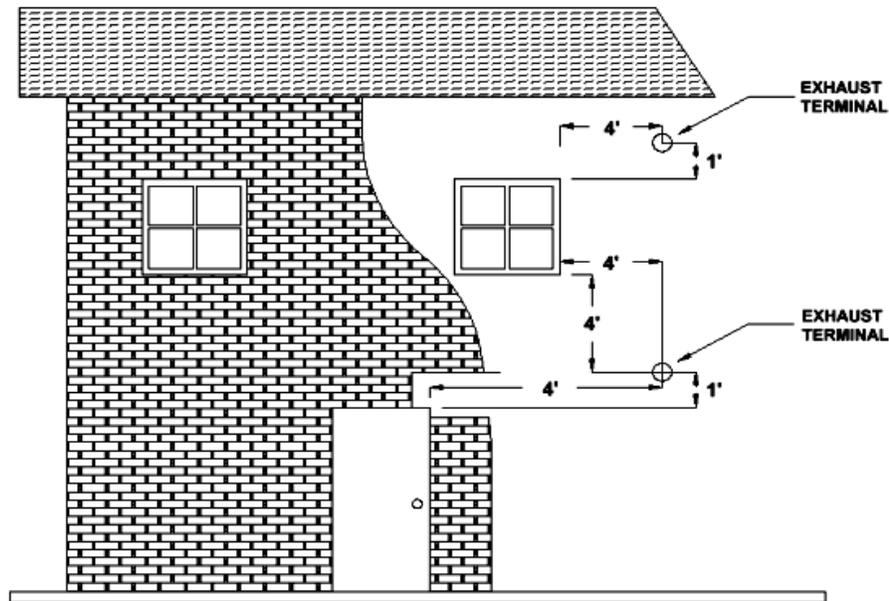

Figure 8a
The type of installation must first be considered before determining the exact location of the venting termination in relationship to doors, window, cavities or air vents. See figures 8a and 8b below.
- a. **Without** Outside Air connected to the unit. For These types of installations please refer to the dimensions listed below in figure 8a.